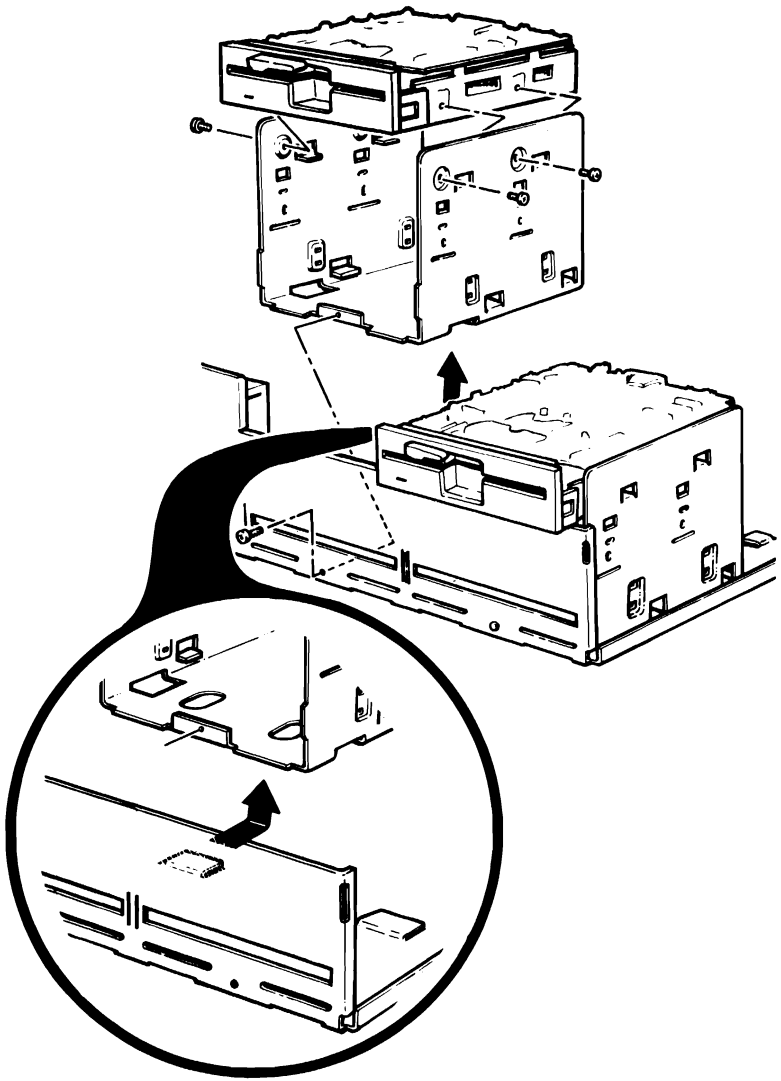

Figure B.2. Drive Installation
- Remove the screw holding the disk drive chassis in the center of the computer as shown in Figure B.2. If a Winchester drive is installed in this chassis, disconnect the cables on the Winchester drive before removing the disk drive chassis.
- Refer to Figure B.2 and place the new disk drive on the four supports on the disk drive chassis. Fasten it with the four 6-32 × 3/8" Phillips hex head screws packed with the disk drive.